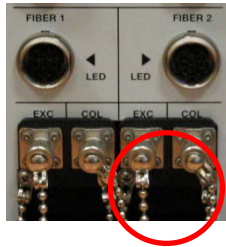

Figure 27 Attaching the FOP
4. Remove the two retained screw-in caps from the two coupler ports marked **EXC** and **COL** below the **FIBER 2** connector on the rear panel (Figure 27).